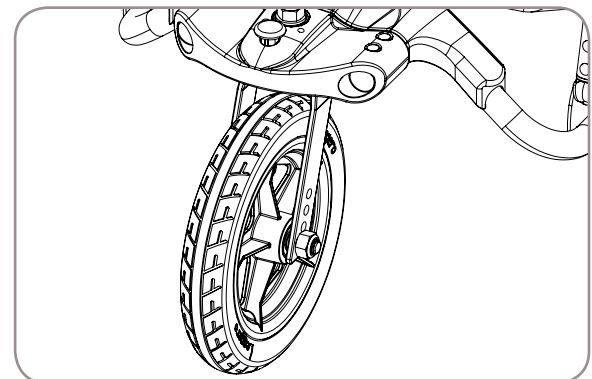

Figure 6, Locked
1. To engage caster swivel lock, rotate wheel forward as shown in figure 6.